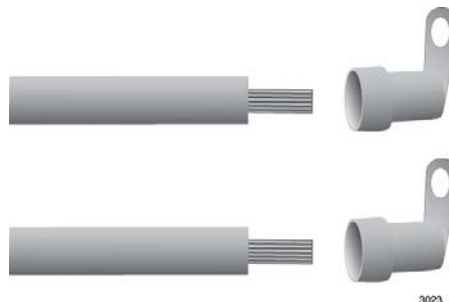

Figure 141. Attaching the Power Wires to the Right Angle Terminals
3. Insert the power wires into the right angle terminals included with the power supply and use a crimping tool to secure the wires to the terminals. See Figure 141,